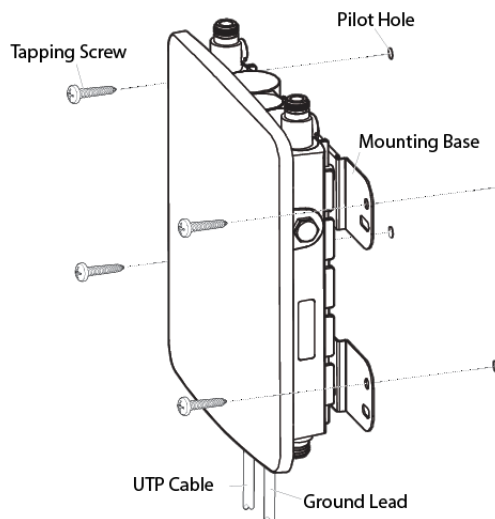

Figure 18. Installing to the Wall Using Tapping Screws
6. Drive the tapping screws into the holes made in Step 4 to install the access point. Refer to Figure 18 on page 50.